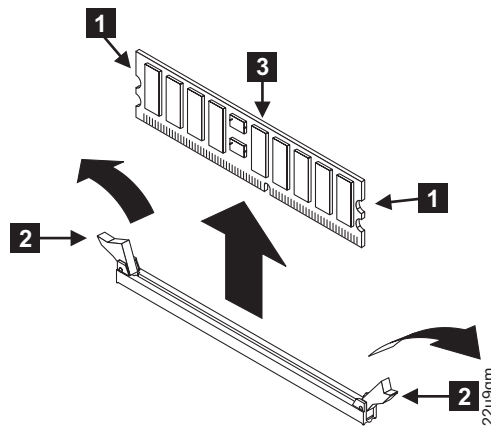

Figure 83. Removing the memory modules
4. Open the clips **2** by pressing them outward, as shown in Figure 83. This action pulls the memory module **3** out of the connector.